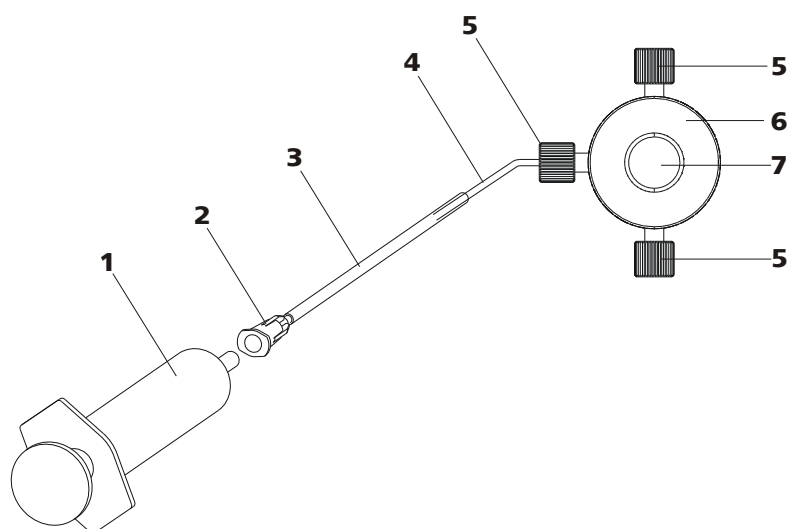

Figure 22 Deaerating the high pressure pump
Deaerate the high pressure pump as follows (see figure 22, page 44):
- Insert syringe (22-**1**) in the Luer connector (22-**2**) of the purging needle (see figure 22, page 44).